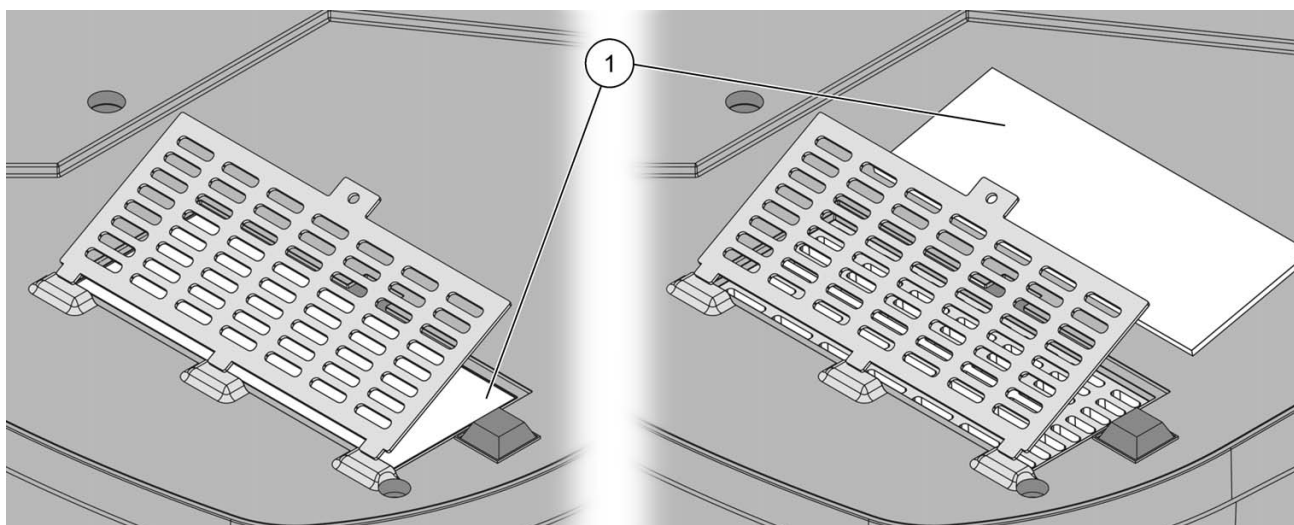

Figure 10 Change of filter pad
7. Lift the filter grid (Figure 10 on page 126, item 1).
8. Remove the old air filter pad and replace it with a new air filter pad (Figure 10, item 2).